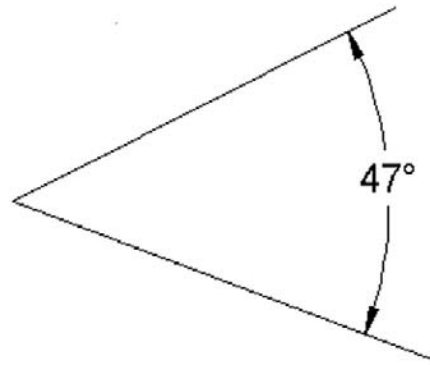

FIGURE 6.6
This is a dimension for angles between two lines or objects (Figure 6.6).
- Step 1.** Create two lines spread out at a random angle, as seen in Figure 6.6. Then begin the Angular Dimension command via any of the previous methods.